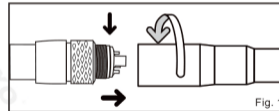

Fig. 1
- 1) Insert the handpiece correctly into the hose connector and tighten the hose nut (Fig.1).